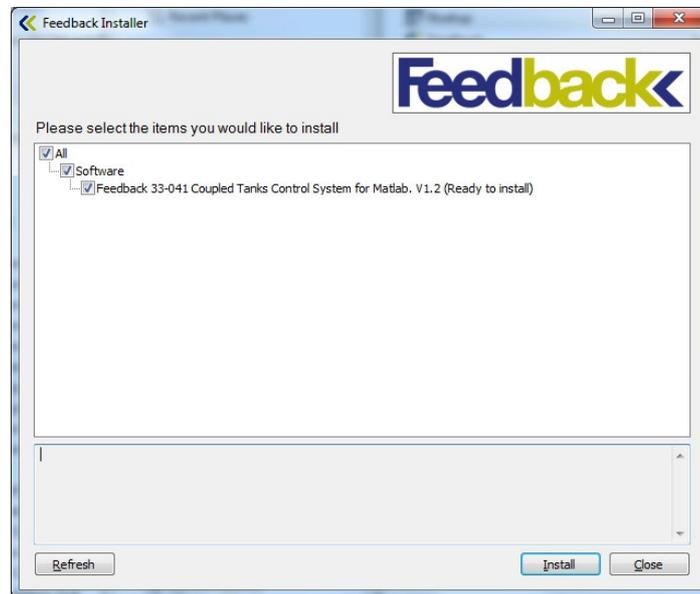

Figure 19 Program Installation Manager
4. After launching the setup program, the program installation manager dialog will appear on the screen. (Figure 19)